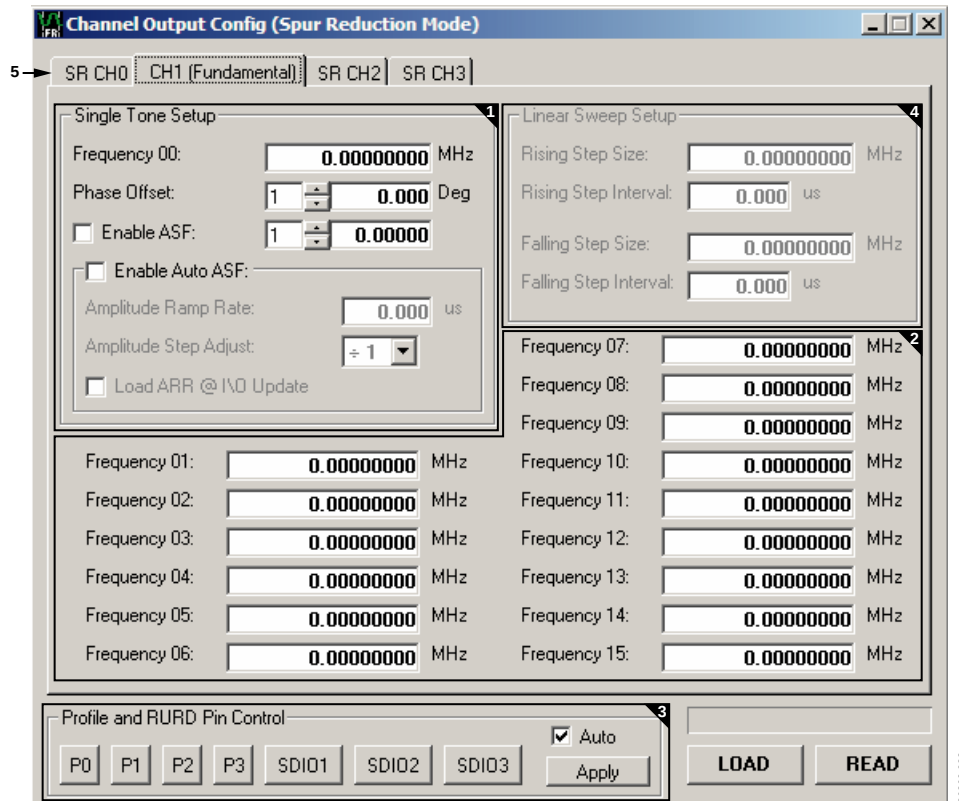

Figure 13. Channel Output Config Window in Spur Reduction Mode
The **Channel Output Config** window configures various output characteristics of the channel(s). **CH1 (Fundamental)** is used for the fundamental channel output. **SR CH0**, **SR CH2**, and **SR CH3** are the spur reduction channels. The following sections describe the elements that are numerically indexed in Figure 13.
The **AD9911** features up to 16 programmable registers per channel as shown in Figure 13. Because of certain channel constraints, however, there are limitations on how the profile registers can be used in some configurations. This is further described in the **AD9911** data sheet.
2. Using the **Channel Output Configuration** window (see Figure 13), enter the desired fundamental frequency (**CH1 Fundamental** tab) directly into the **Frequency 00** box by double-clicking the box. Click **LOAD**. If you intend to use the auto scale factor (**Enable ASF**), enter the value now. Click **LOAD**.
6. Once the amplitude is matched, reset the frequency of the spur reduction signal exactly the same as the harmonic. The software autocalculates the harmonic frequency out to the 14th harmonic. Use the drop-down menu next to the frequency box to access the autocalculated values (see Figure 13).
2. Using the **Channel Output Config** window (see Figure 13), click the **CH1 (Fundamental)** tab. Type in the fundamental frequency and amplitude.